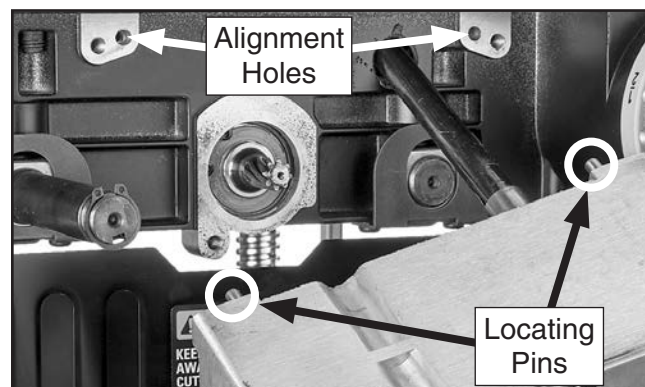

Figure 20. Gearbox locating pin alignment.
20. Re-install gearbox by aligning both locating pins on gearbox assembly with both alignment holes on planer (see **Figure 20**).